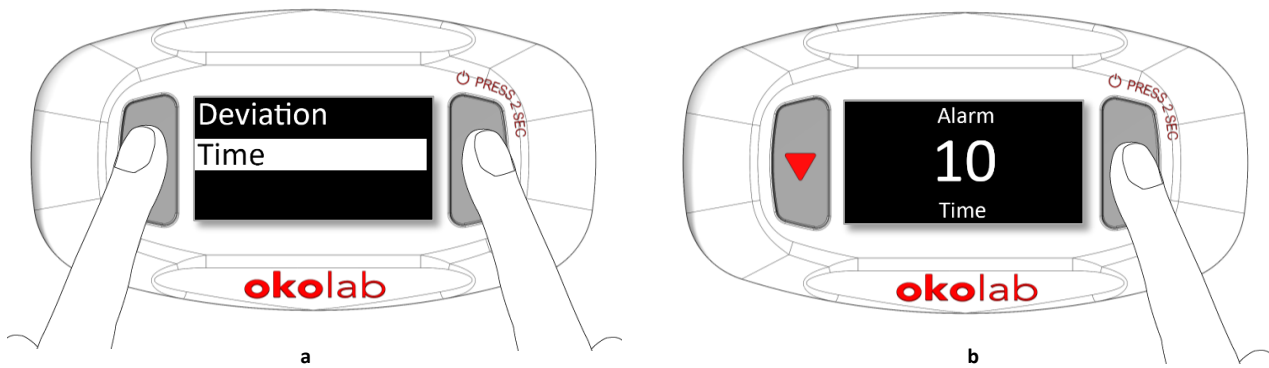

Figure 26. Time alarm setting (a - b).
3. Once you have opened the *Alarm page* as described in step 2, press the DOWN button to select the *Time page* and then press the UP & DOWN buttons at the same time for 1 second to enter the *Time page* (see Figure 26 a). Use the UP or DOWN button to change the time value (see Figure 26 b) and confirm by pressing UP & DOWN buttons at the same time for 1 second.